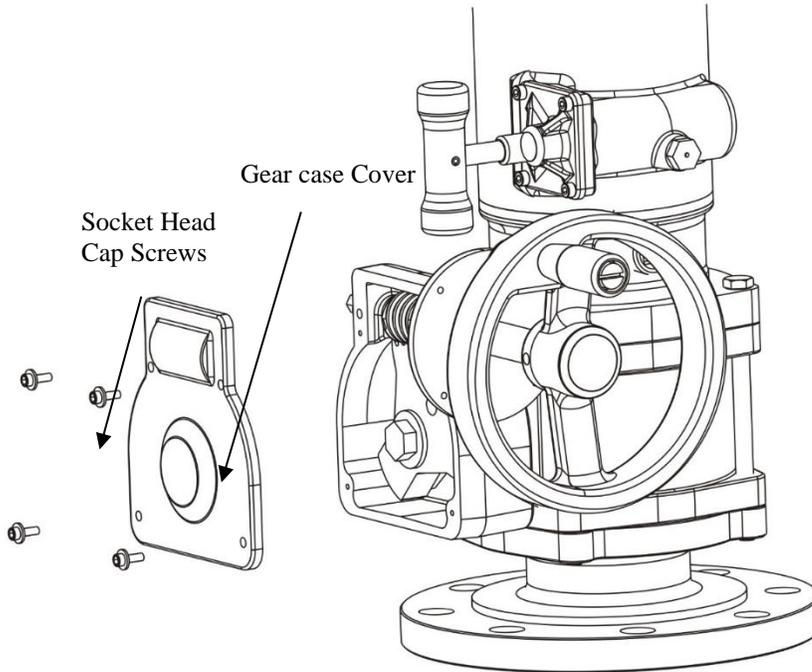

Figure 14
- Remove the socket head cap screws that attach the gear case cover to the gear case; also remove the gear case cover. (see Figure 14)
- Install the gear case cover and the four socket head cap screws that attach the gear case cover to the gear case (see Figure 14)